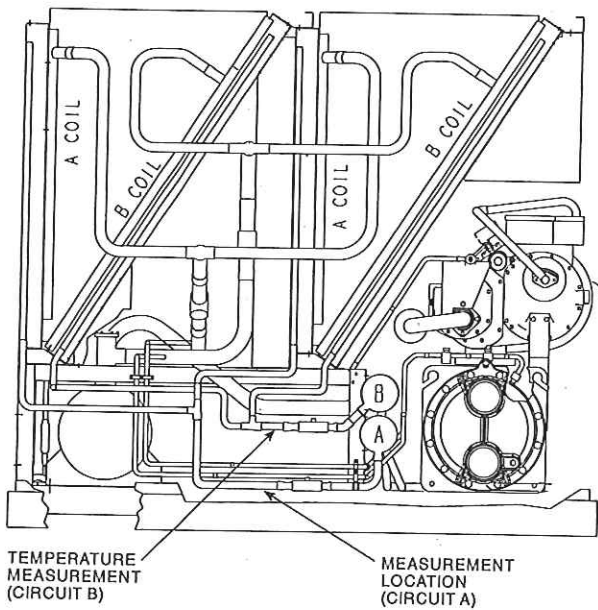

Fig. 28 — Saturated Liquid Temperature Measurement (30GXN,R080-150 and 160)
4. For 30HXA chillers, raise the compressor discharge to approximately 125 F (51.7 C) saturated condensing temperature (185 psig [1276 kPa]). For 30GXN,R chillers, raise the compressor discharge to approximately 130 F (54.4 C) saturated condensing temperature (198 psig [1366 kPa]). Measure the liquid temperature entering the EXV for 30HXA units. For 30GXN,R units, measure the liquid temperature after the tee where all liquid lines have joined (see Fig. 28 and 29). The liquid temperature should be approximately 107 F (41.7 C) for optimum charge. If the temperature is greater than 107 F (41.7 C) and the sight glass is flashing, the circuit is undercharged.